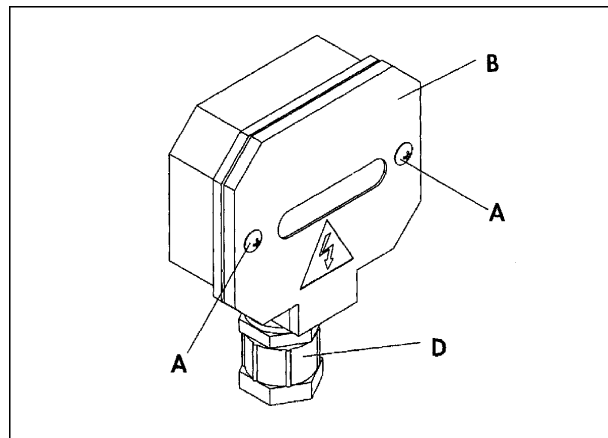

FIGURE 8
1. Remove two screws (A) and remove terminal strip cover (B). See Figure 8.
3. Insert power line through opening (D) of terminal strip box, shown in Figure 8.